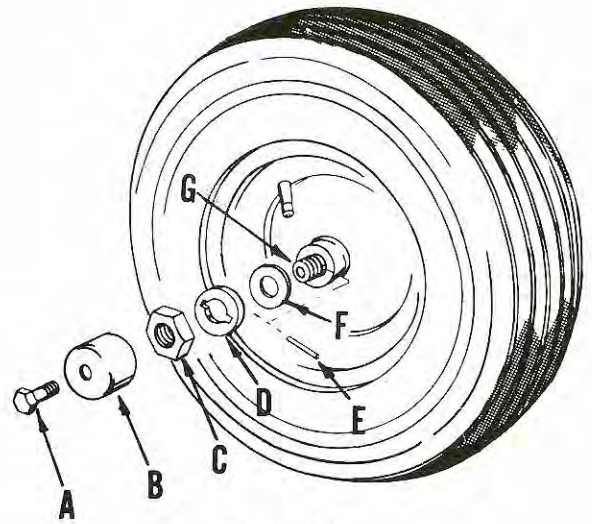

FIG. 29
4. Reverse procedure for reassembly, refer to Fig. 29.